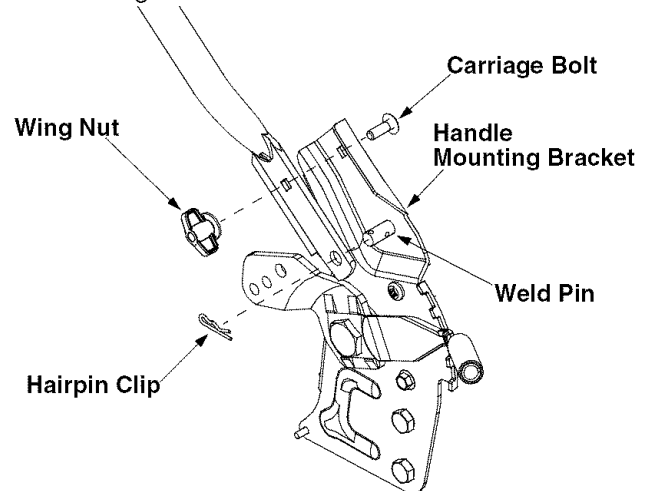

Figure 3
- For shipping purposes, the hairpin clip is placed in the outer hole of the weld pin on the lower handle. Remove the hairpin clip from the outer hole of the weld pin. See Figure 3.
- Using a pair of pliers, insert the hairpin clip into the inner hole on the weld pin. Repeat on other side. See Figure 3.